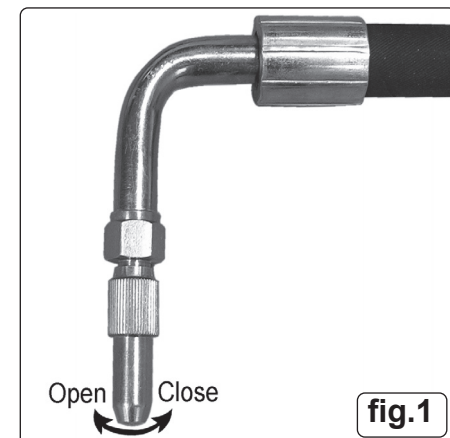

fig.1
- 5.1.2. With the nozzle pointing into the receiving container, open the nozzle valve as shown in fig.1.